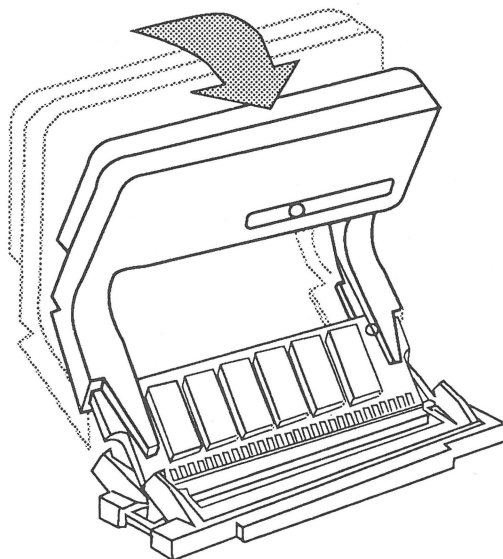

FIGURE 7
4. As you are sliding the tool on and the tabs are spreading, gently rotate the tool forward (Figure 7) until the SIMM comes loose.